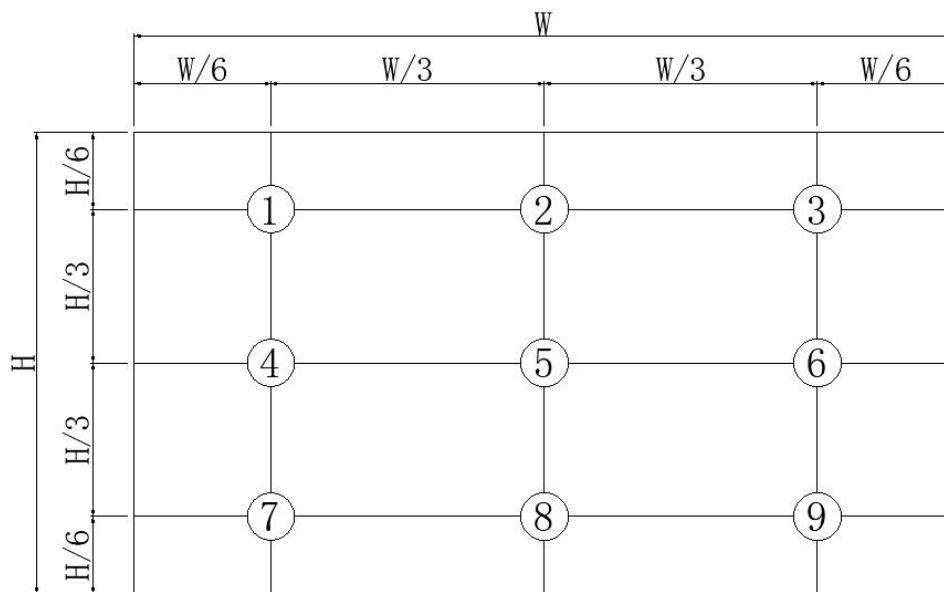

Figure 8. White Luminance and Uniformity Measurement Locations (9 points)
3. Center Luminance of white is defined as luminance values of 9 point average across the LCD surface. Luminance shall be measured with all pixels in the view field set first to white. This measurement shall be taken at the locations shown in Figure 8 for a total of the measurements per display.
4. The White luminance uniformity on LCD surface is then expressed as : $\Delta Y = \text{Minimum Luminance of 9 points} / \text{Maximum Luminance of 9 points}$.(see Figure 8).